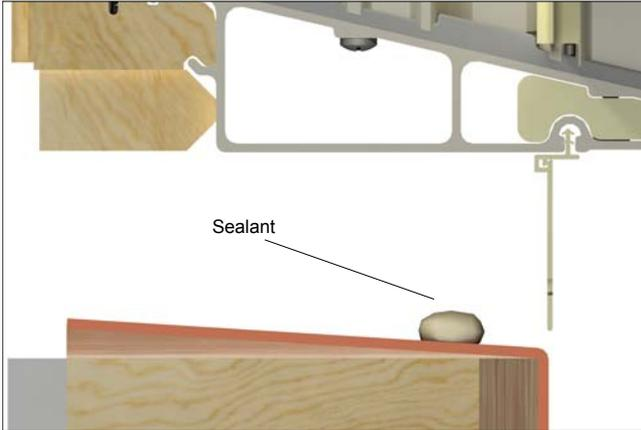
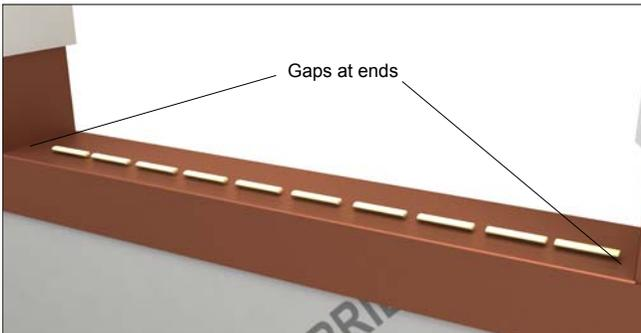

Figure 5 Adhere sill of window to the sill of opening.
Figure 6 Discontinuous bead of sealant.
1. All impact rated windows (except Round Tops) must be adhered to the sill with a discontinuous 5/16" (8) bead of sealant on the framing sill where it will contact the window or door frame sill. See figure 5. Leave approximately 2" (51) gaps on the ends. See figure 6. For Impact door installation methods refer to the general door installation instructions (part number 19915634) and the product specific installation instructions for your product.